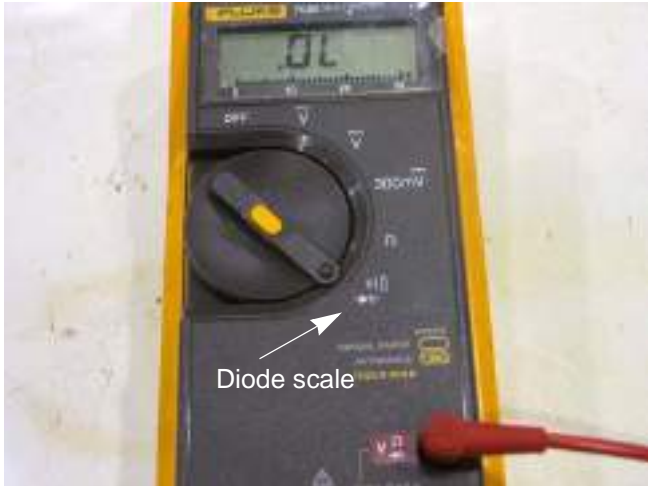

Figure 7.47
- 12b. Set the DMM to the diode or Ω scale. See Figure 7.47.